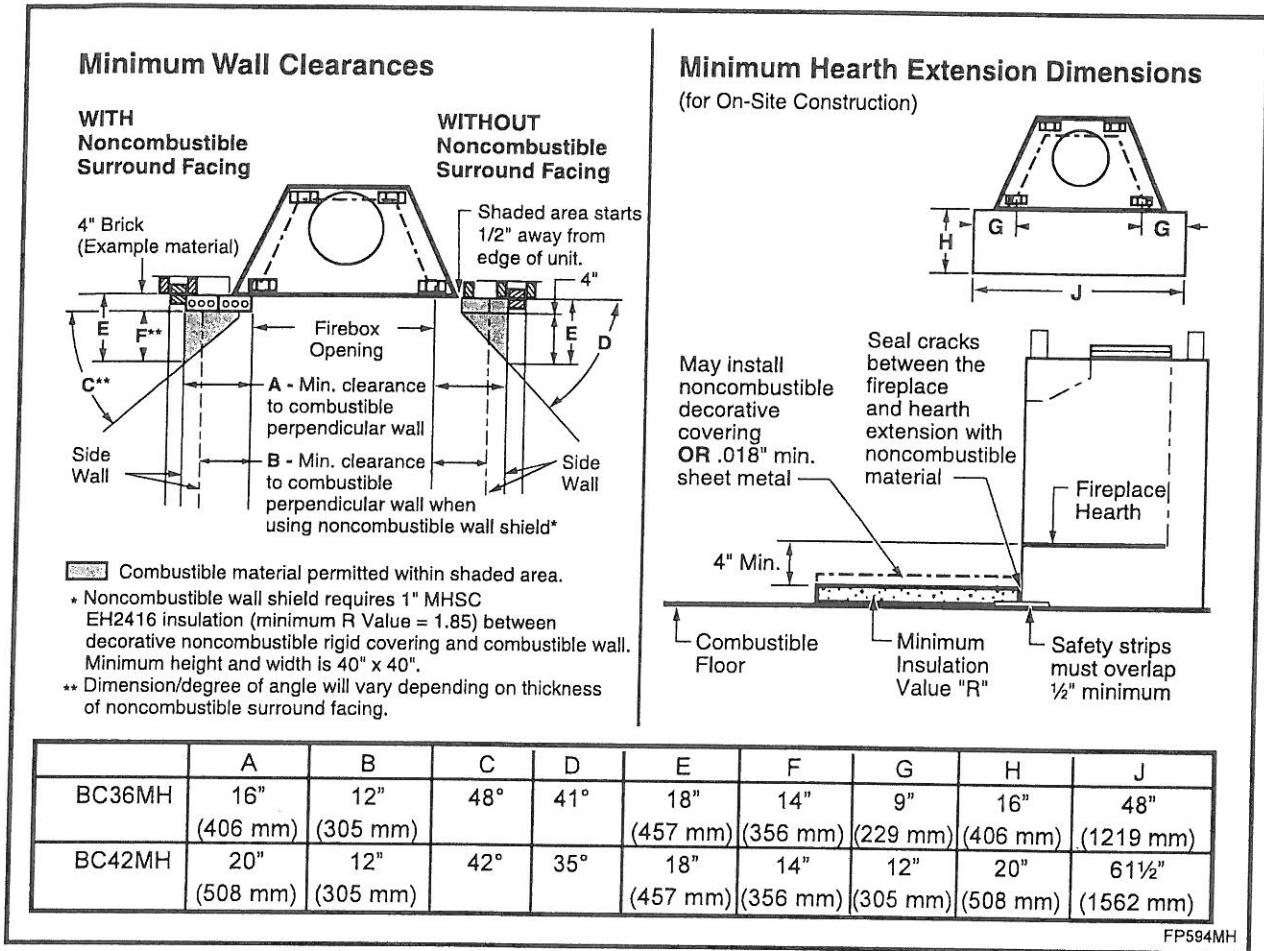

Fig. 23 Combustible side wall protection and hearth extension dimensions.
A hearth extension is required to protect a combustible floor in front of the fireplace. Refer to Figure 23 for minimum dimension and mounting detail.
The hearth extension described in Figure 23 must be a durable noncombustible material with a minimum (total) R_t value of 1.09; refer to Figure 24 for examples. The overall height (above a combustible floor), depth and width must be as indicated, with the extension centered to the fireplace opening.
The top of insulation must be covered with a noncombustible decorative covering or a piece of .018" minimum sheet metal, to protect hearth extension material. (Fig. 23)
Secure the hearth extension to the floor to prevent shifting, using trim molding or other similar means at three (3) outer edges. Seal crack between the fireplace hearth and hearth extension with a noncombustible material. (Fig. 23 and 25)